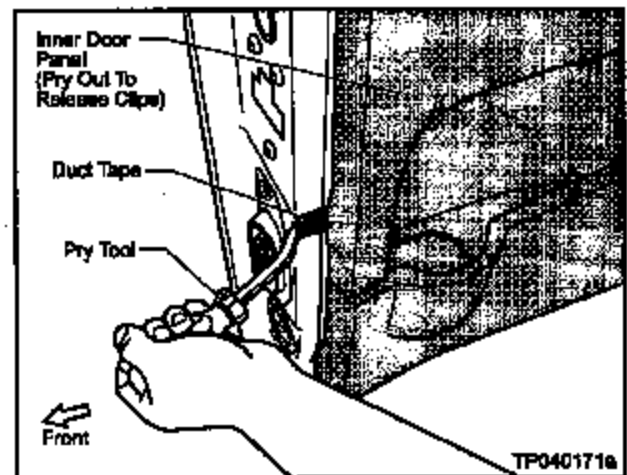

Figure 3
- a. Use a suitable Pry Tool to carefully release the Securing Clips along the front edge of the Inner Door Panel (see Figure 3).
**CAUTION:** Be careful not to damage the paint/plastic. Use duct tape on the end of the Pry Tool (see Figure 3).